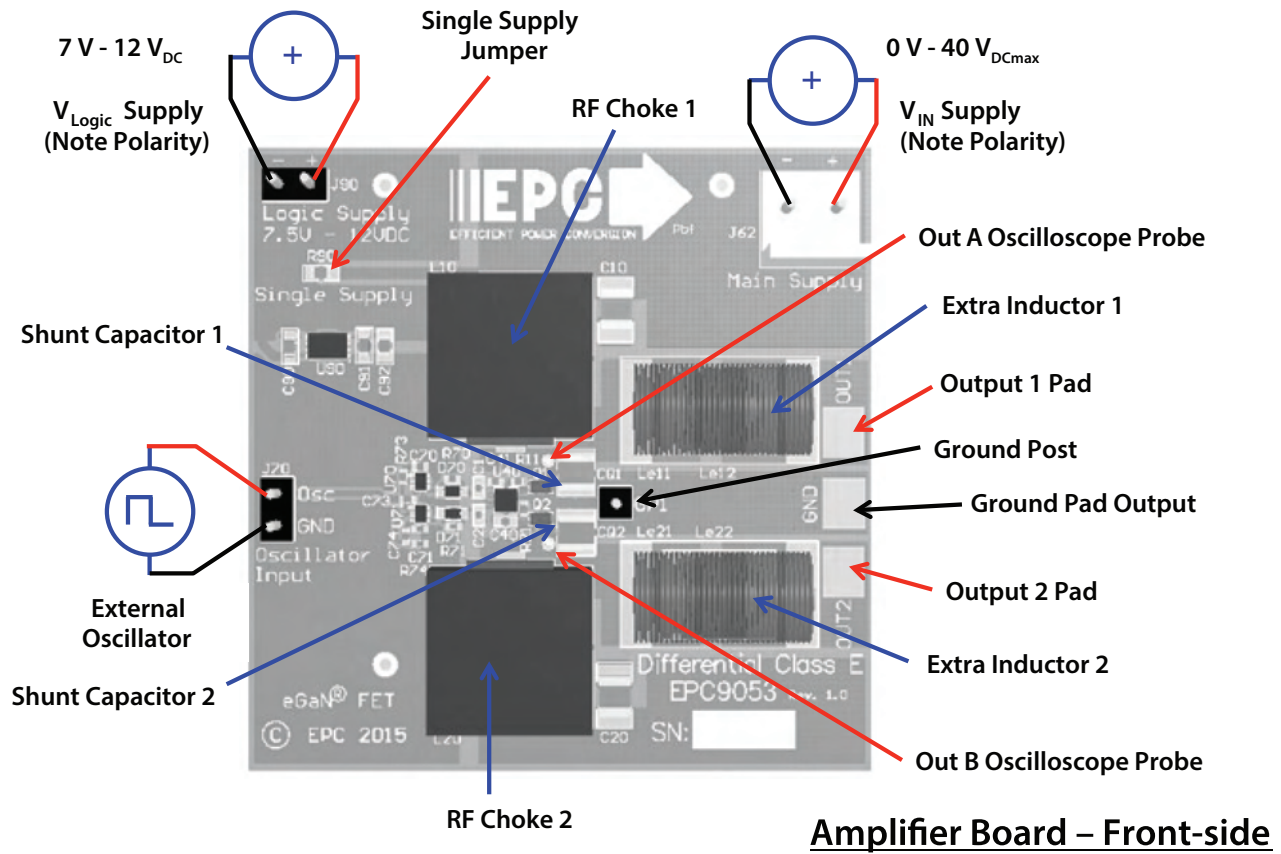

Figure 5: Proper connection and measurement setup for the amplifier board.
2. With power off, connect the main input power supply bus to J62 as shown in figure 5. Note the polarity of the supply connector. Set the voltage to 0 V.
3. With power off, connect the logic input power supply bus to J90 as shown in figure 5. Note the polarity of the supply connector. Set the voltage to between 7 V and 12 V.
NOTE. When measuring the high frequency content switch-node, care must be taken to avoid long ground leads. An oscilloscope probe connection (preferred method) has been built into the board to simplify the measurement of the Drain-Source Voltage (shown in figure 5). The choice of oscilloscope probe needs to consider tip capacitance where this will appear in parallel with the shunt capacitance thereby altering the operating point of the amplifier.